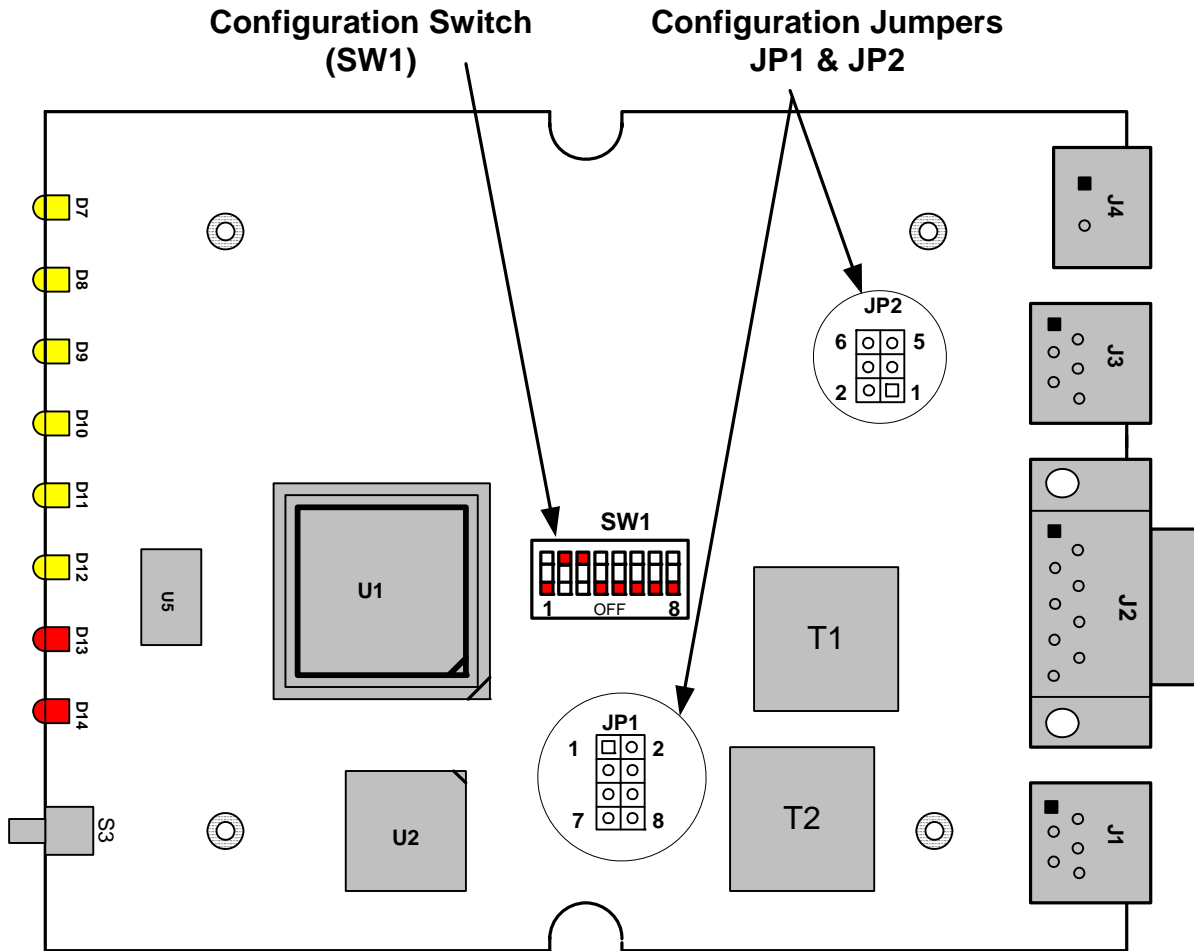
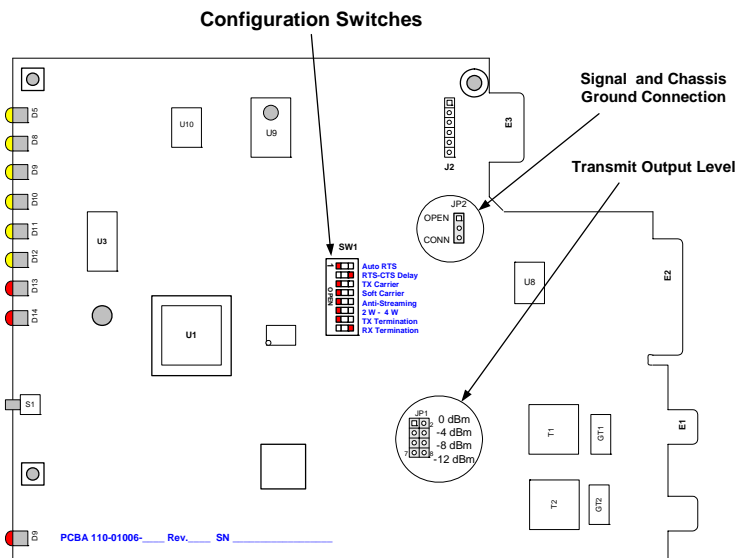

Figure 2-4. SM202T & SMV23 Stand-alone Modem Board
Figure 2-5. SM202T & SMV23 -mount Modem Board
| Figure 2-4. SM202T & SMV23 Stand-alone Modem Board | 12 |
| Figure 2-5. SM202T & SMV23 -mount Modem Board | 13 |
2. Use a small Philips screw driver to remove the two screws at the bottom of the enclosure and remove the top cover. The location of the DIP switches and jumpers for the stand-alone modem are shown in Figure 2-4. For DIP switches and jumpers on the rack-mount plug-in module, see Figure 2-5.